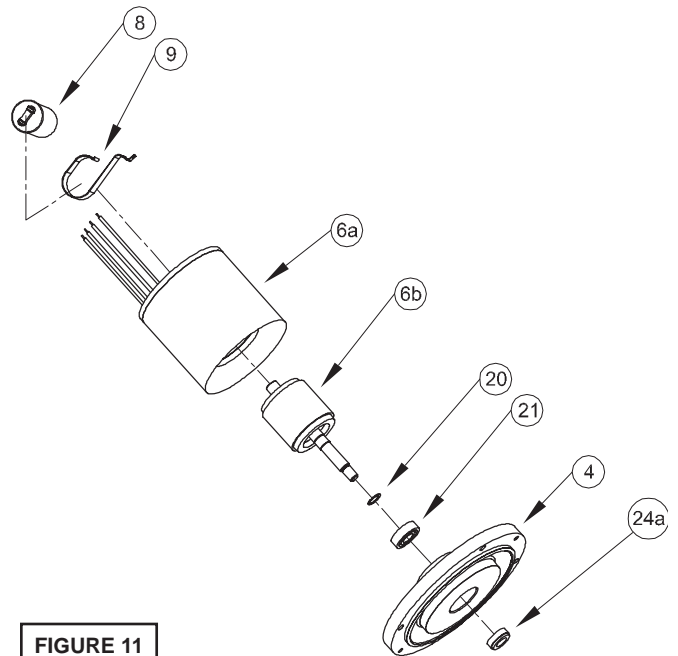

FIGURE 11
Position unit upright, using blocks to avoid resting unit on shaft. Unscrew cable hex bolts (10) and remove compression flange (14) and power cord (13). Remove snap ring (15) with a flat head screwdriver. Pull the terminal block (17) out of the housing (5) using a T-bolt or pair of pliers and a .25-20 screw in the threads of the terminal block (17). Be sure to leave slack on the motor leads connected underneath. Use needle nose pliers to pull each female connector off of the pins on the underside of the terminal block (17) see Figure 11. The unit voltage should be noted. Remove socket head cap screws (32).